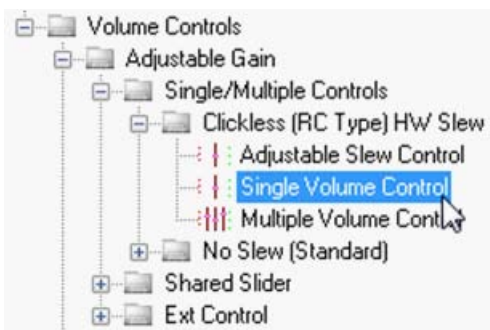

Figure 20. Volume Control Cell Selection
- In the **Tree Toolbox**, navigate to the **Volume Controls > Adjustable Gain > Single/Multiple Controls > Clickless (RC Type) HW Slew** folder and select a **Single Volume Control** cell (see Figure 20).